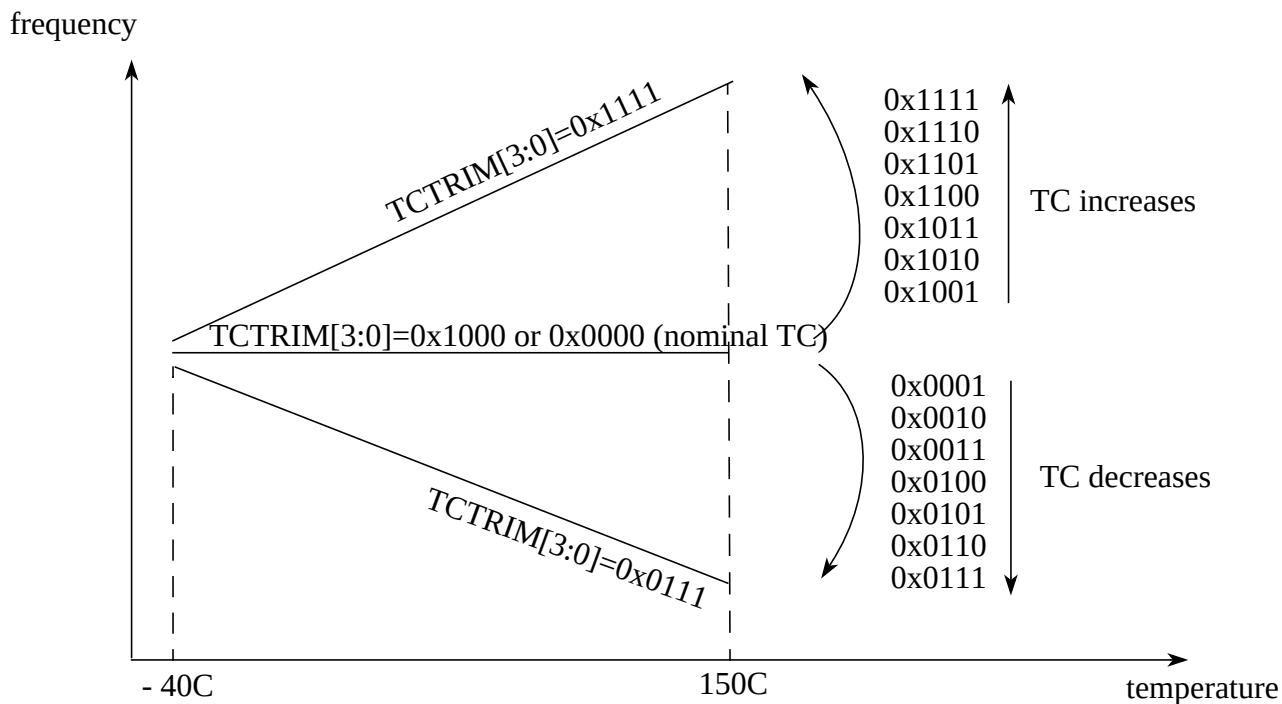

**Figure 7-27. Influence of TCTRIM[3:0] on the Temperature Coefficient**
| 15-12TCTRIM[3:0] | IRC1M temperature coefficient Trim BitsTrim bits for the Temperature Coefficient (TC) of the IRC1M frequency.Table 7-21 shows the influence of the bits TCTRIM3:0] on the relationship between frequency and temperature.Figure 7-27 shows an approximate TC variation, relative to the nominal TC of the IRC1M (i.e. for TCTRIM[3:0]=0000 or 1000).                                                                                                                                                                                                                                                                                                                                                                                                                                                                          |